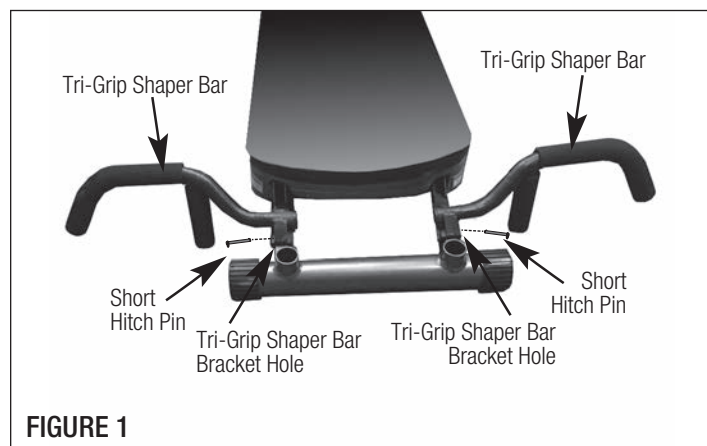

FIGURE 1
If the Stopper at the bottom of the Vertical Column has not already been installed, please do so now. Locate the Stopper which is packed in Miscellaneous Accessories (**See** Product Specifications on page 4 of this manual). Unscrew nut on the end of the Stopper and remove. Insert the Stopper into the hole located in the center of the Back Crossbar (See Fig. 1). Screw the nut back onto the Stopper and tighten with Allen Wrenches provided (See Fig. 2).
3. Insert the 2 Short Hitch Pins through the holes on the Tri-Grip Shaper Bar Brackets and the hole on the Rails as Shown in Figure 1. Make sure to securely attach each Tri-Grip Shaper Bar to each side of the frame before using.